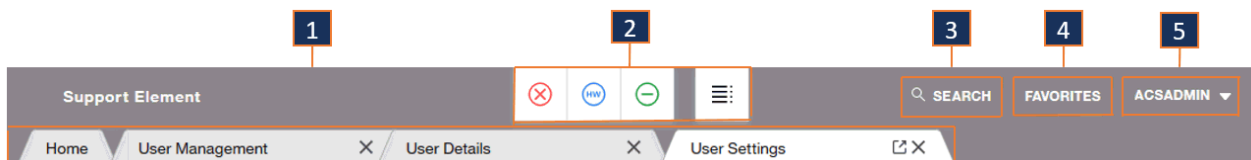

Figure 7. Elements of the SE masthead
The SE masthead, which is located across the top of the workspace window, consists of the four major elements shown in Figure 7 on page 262.
- Tabs of related tasks are grouped together. For example, in Figure 7 on page 262 , User Management and User Details are related so their tabs overlap.